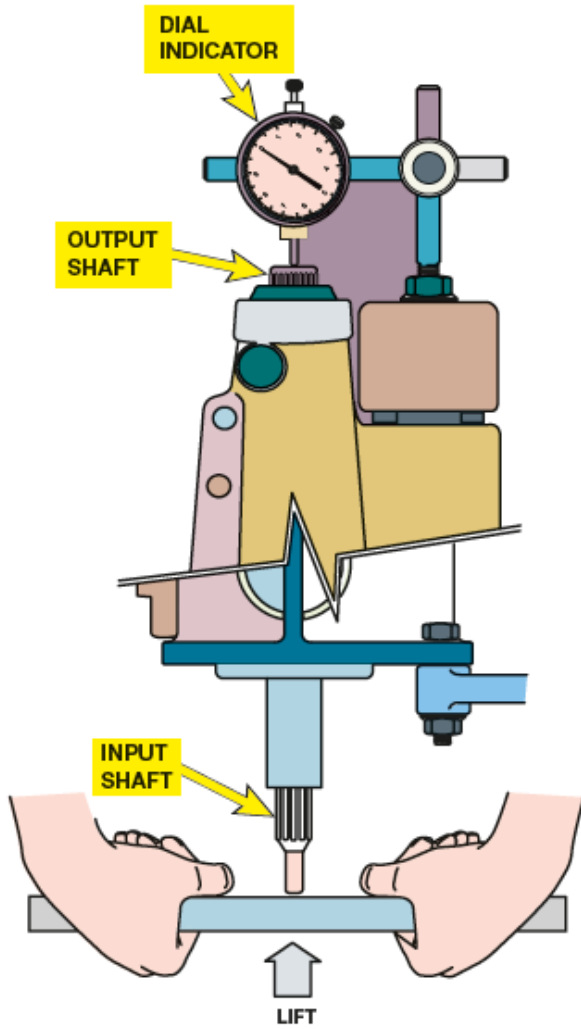

Figure 18. Measuring end play.
- Move the shaft up and down through its free travel several times while reading the end play or clearance on the dial indicator. Figure 18.